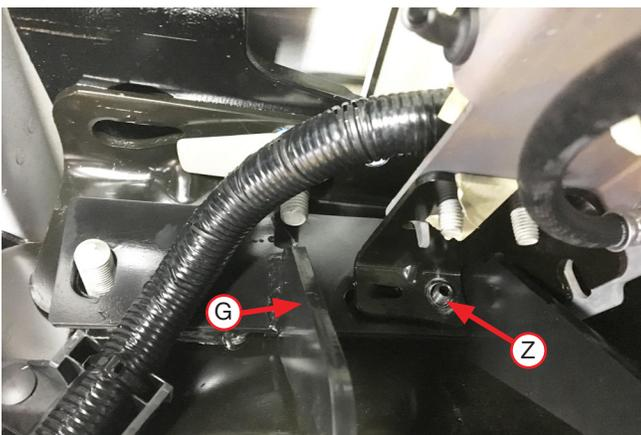
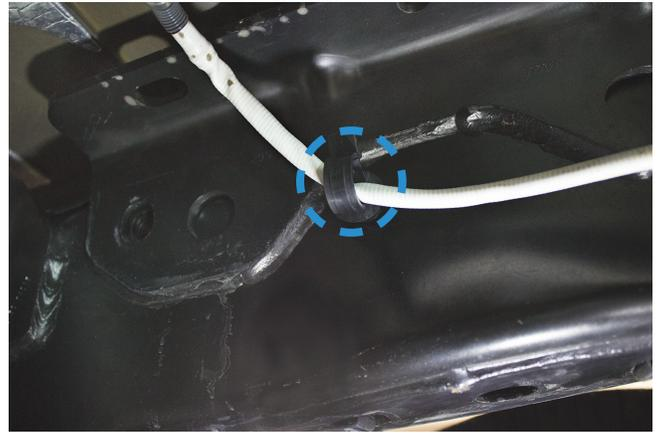

Fig. 31
Fig. 32
7. Set the upper brace (G) in place over the 50mm set screw (Z) and against the frame (Fig. 31). Ensure the hole in the rear of the brace lines up with the fifth wheel bracket hole in the frame. Set the stock brake line bracket, previously removed, over the 50mm set screw and on top of the brace. Thread the M10 serrated flange lock nut (DD) onto the set screw. Reinstall the factory fifth wheel hardware previously removed (if equipped) or use the supplied 5/8" (AA, BB, CC) hardware through the frame and brace (Fig. 32). Leave loose at this time.